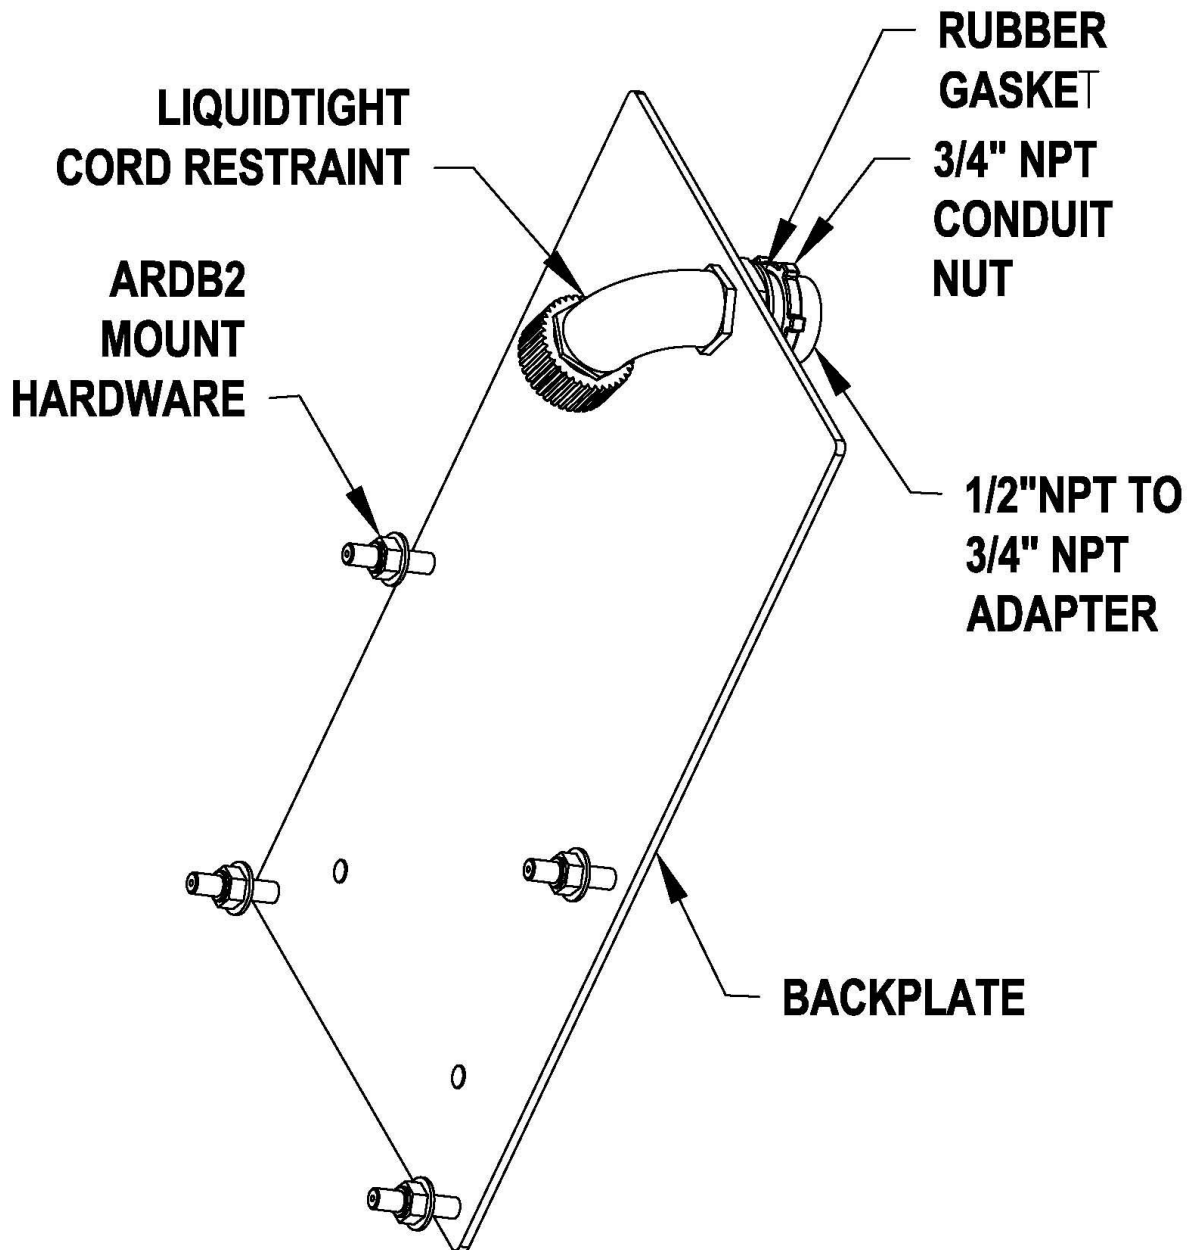

Figure D1 – ARDB2 to ARDB or MFDB Mounting Adapter (Part Number 1030-1636)
To install an ARDB2 2ND Gen. Breather on the control cabinet of an ARDB 1ST Gen or an MFDB Breather without making modifications, Connection Option #4 is required (see Figure D1 below for adapter kit components).
- h. NOTE: The remote alarm, five-conductor cable once attached to the ARDB2 needs to be connected separately to a monitoring system (see Figure D1, page 24), as the liquid tight cord restraint will not accommodate a second cable.